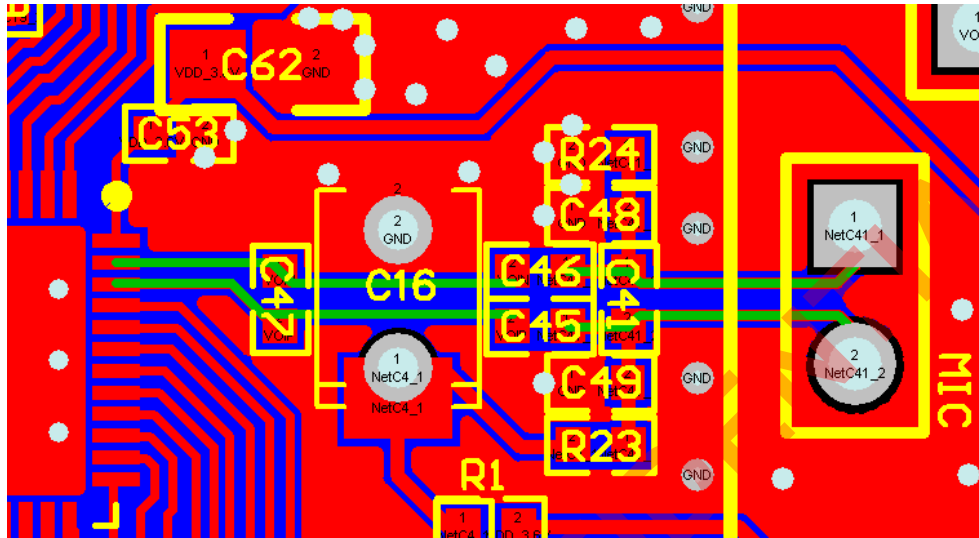

Fig 2.2d Microphone input trace(green)
- The microphone input differential path (Pin 46: VIP and Pin 47: VIN) should be balanced and routed in parallel, as the same distance as possible from start to end. Please refer to the green traces in Fig. 2.2d.